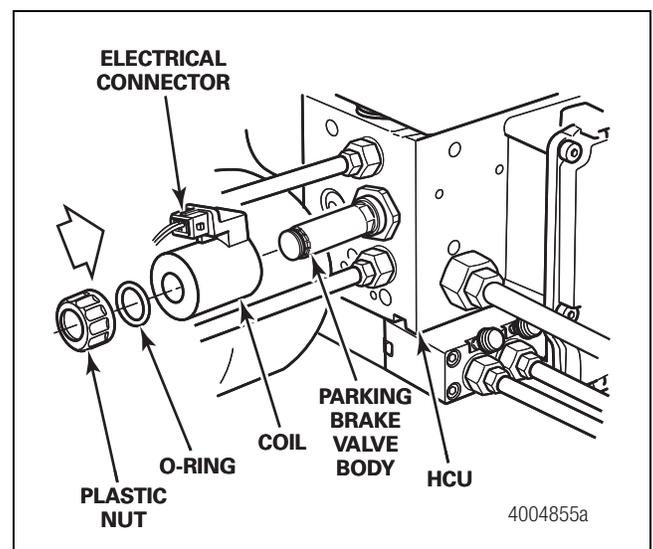

Figure 4.58
4. Position the new pressure supply valve onto the hydraulic compact unit. Use a socket, Snap-On Tools part number A121, to tighten the valve to 27-34 ft-lb (40-50 N•m). Figure 4.58.
- Attach the electrical connector to the parking brake valve. Figure 4.58.